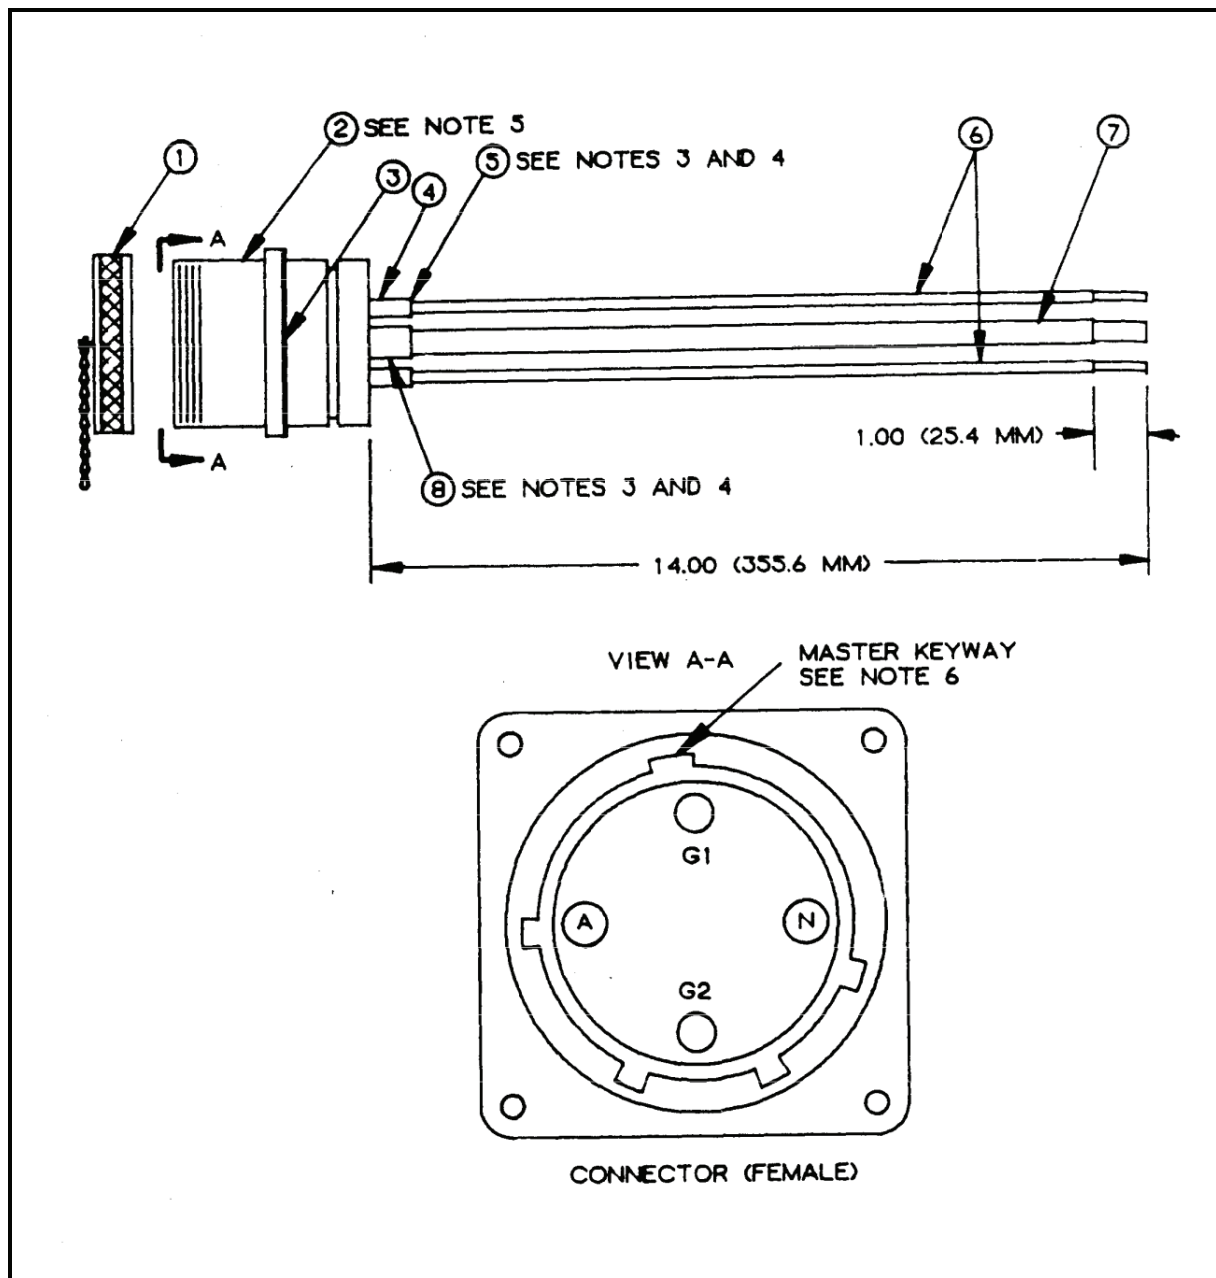

Figure F-11. M60, 60-Amp, Output Connector Assembly.
F-11 M60, 60-Amp, Output Connector Assembly, (J2)**Component Legend for Figure F-11**
- c. Electrical connector (Figure F-11, Item 2) is furnished with the following: